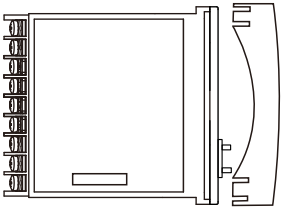

Figure 1
- Snap the concave portions of the left and right sides of the transparent cover and pull them outward (Figure 1).